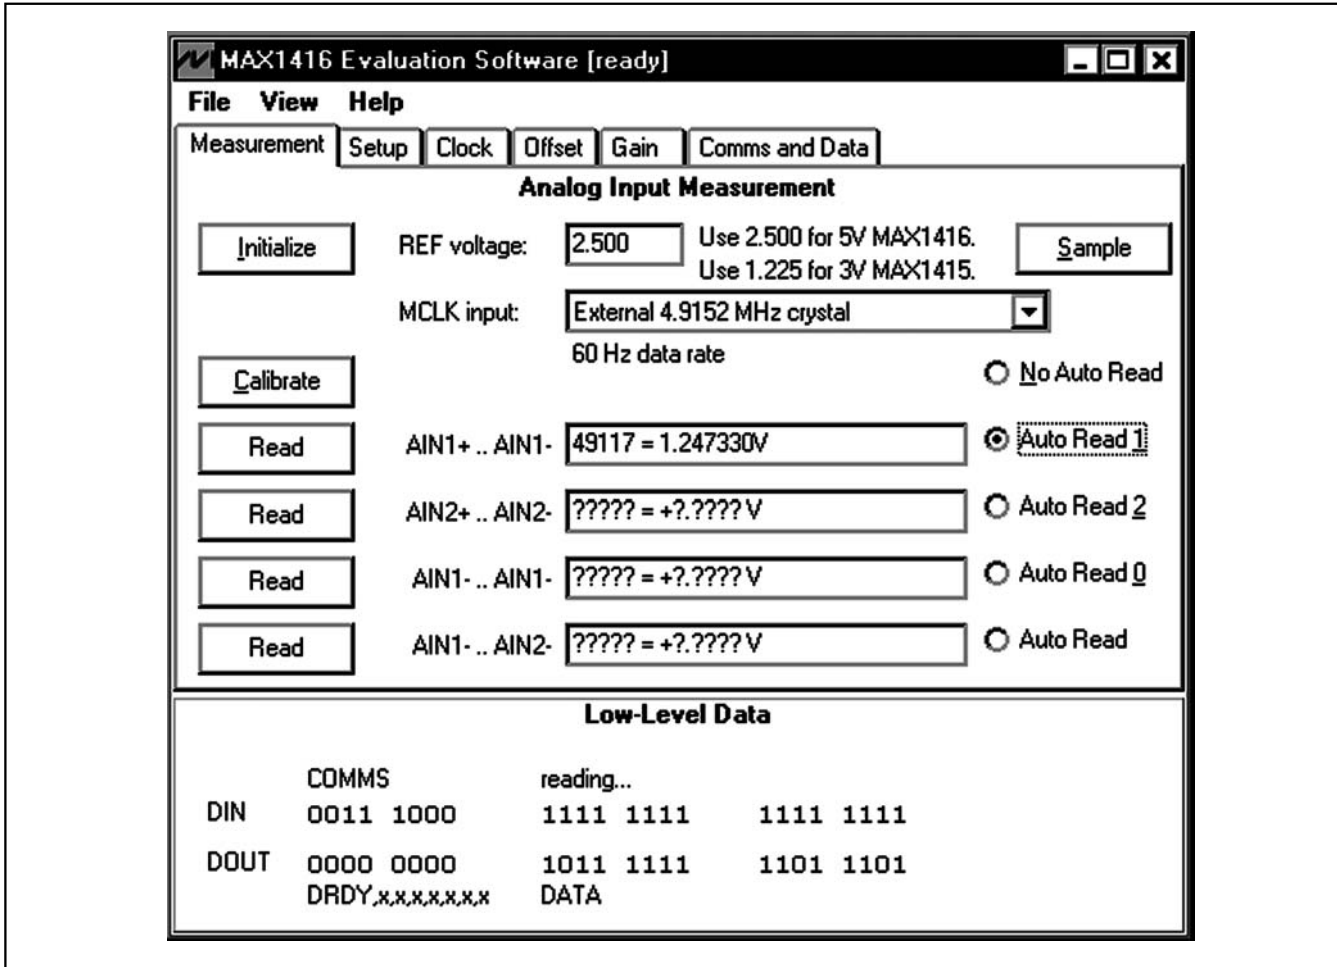

Figure 1. MAX1416 EV Kit Software Main Window (Measurement Tab)
- 10) When the main window appears (Figure 1), click **Initialize** and then **Calibrate**.